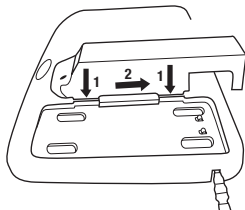

Fig. 1b
- 3M™ 4-Station Battery Charger Tray TR-944N: Insert the 3M™ Battery Charger Cradle TR-340 into one of the charging ports on the TR-944N and slide back to lock into place (Fig. 1b). (**NOTE:** The TR-941N power cord is not used with the TR-340, when the 4-station charger is used.) Insert the DC supply cord supplied with the kit into the 4-station base. Plug the power cord into an AC power source (100-240V), such as a wall outlet. You may charge any combination of up to four 3M™ Battery Packs simultaneously.